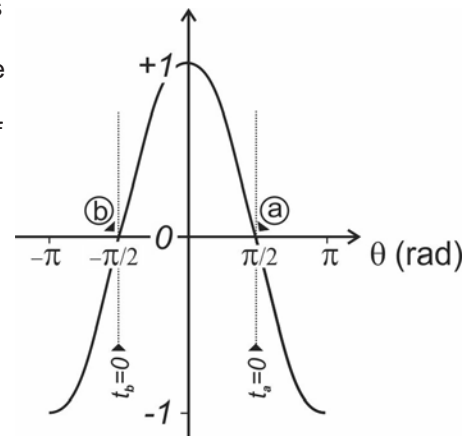

Fig. 4 The cosine function.
3. Here we again have that $y = 0$ at $t = 0$, but now the graph continues along a different path - upwards instead of downwards as in the previous case. Note that due to the symmetry of the cosine function - see **figure 4** - that both the positive and the negative angles are possible solutions to the equation
According to **equation 6** we have that at $t = 0$ that $\theta = \phi$ and as time progresses the value of θ will steadily increase from this angle onwards. Looking at **figure 4** (note the x-axis is θ) we see that if we were to choose the solution $\theta_0 = \phi = \pi/2 \text{ rad}$, point a, then the graph of oscillations, would continue downwards, but if we take the solution $\theta_0 = \phi = -\pi/2 \text{ rad}$, point b, then the graph will continue upwards. So in case 3